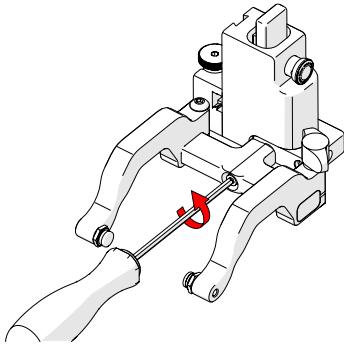

Fig. 55 - Remove yoke
1. Using the supplied 3 mm driver, unscrew the yoke (Fig. 55).
1. Remove the yoke using the supplied 3 mm hex driver (Fig. 55).